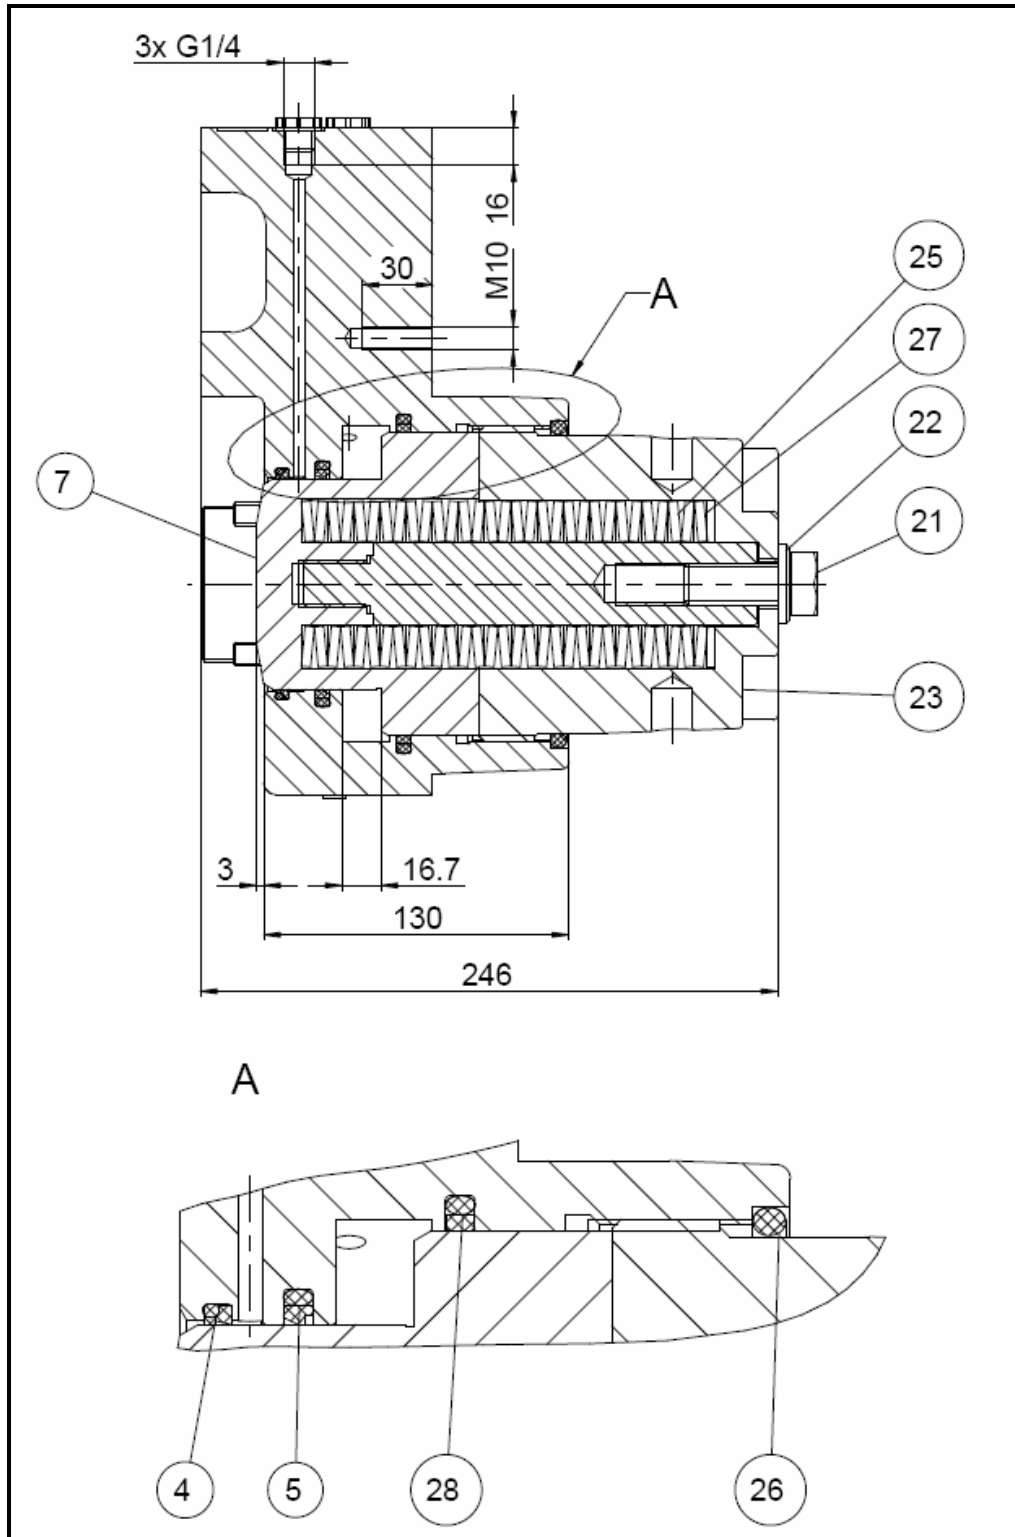

Fig. 12.2
Install the new seals in the brake saddle housing. Observe the correct position of each seal (Fig. 12.2). The seals should be installed by hand to avoid damaging the sealing edges. For easier installation, the seals can be bent into a kidney shape and set into the groove. Lubricate seals prior to installation with a light coat of Molykote MoS2. Press the piston (Pos. 7) straight (centred) into the cylinder bore with a press or drive it with a plastic hammer to the stop point. After installing the disc springs (lubricated with Molykote MoS2) and the support discs, insert the spring receiver lubricated with a light coat of Molykote (Pos. 23) into the brake saddle housing (pos. 2) to dimension 246 as shown in Fig. 12.2. Then pretense the disc springs with the assembly locking screw M18x1.5x60 (Pos. 21) and the washer A 18 (Pos. 22). To facilitate installation of the assembly locking screws, apply hydraulic pressure to the brake saddle and then install the assembly locking screw M18x1.5x60 (Pos. 21) and the washer A 18 (Pos. 22). The last step is to fit the O-ring (Pos. 26) into the housing again.